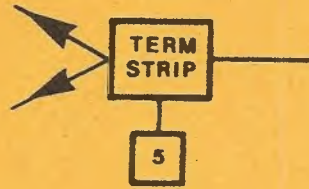
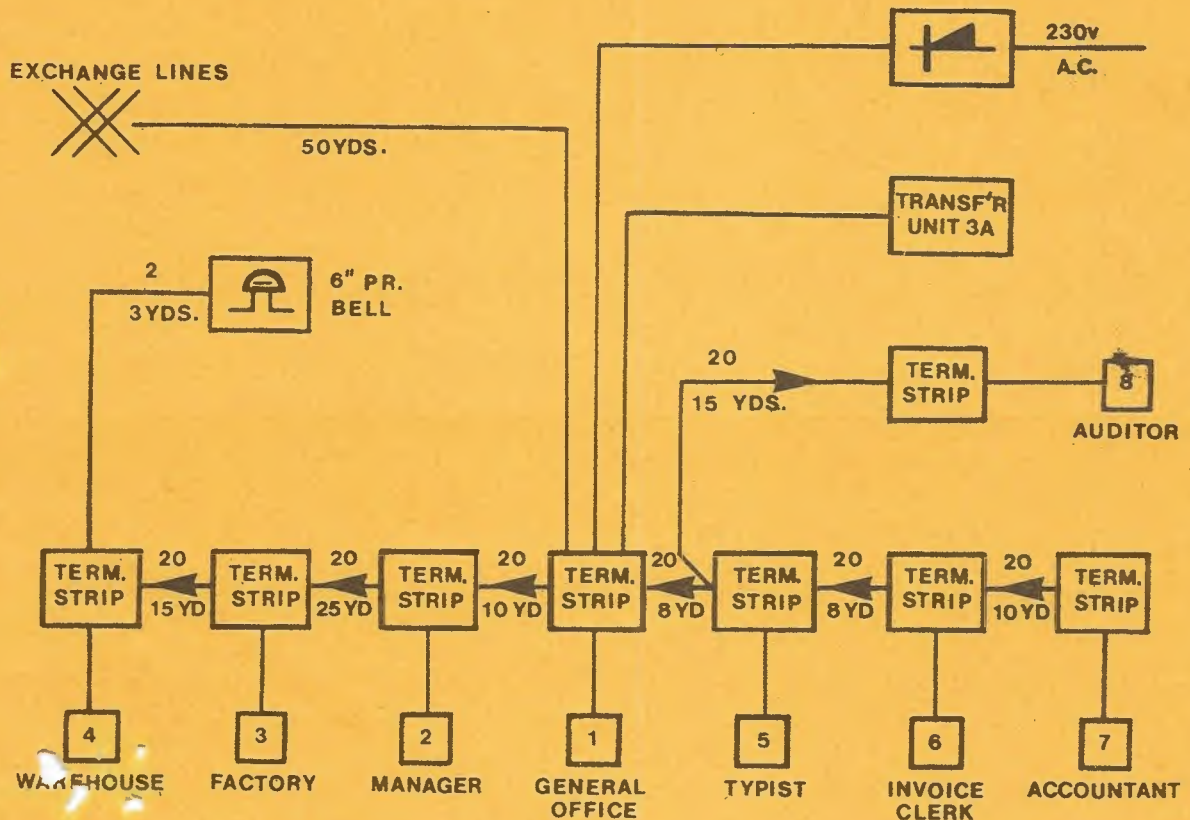

FIG.13 TYPICAL EXTENSION DIAGRAM
FIG.14. TYPICAL INTERNAL CABLING PLAN
These diagrams are to show by arrows the termination (or directions) of the cables. For example, a cable between points 6 and 7 of figure 14 terminated as an "outgoing" at 7 and an "incoming" at 6 show thus :-
9.2 At every extension a diagram with relative notes as required must be left under the cover of the extension tag strip. Figure 13 shows a typical diagram for point No.5 of Fig. 14.
9.3 In addition a complete Internal Cabling Plan showing cable runs and terminal box positions must be prepared and kept at the main station for reference. Fig.14 shows a typical cabling plan.